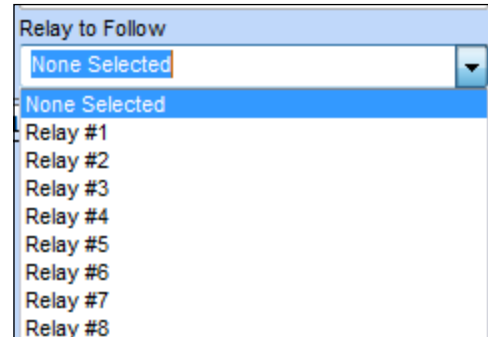

Figure 45: Relay to Follow
- **Follow Relay Output** – If this option is selected, you must then go to the **Relay to Follow** field (Figure 45, page 25) and select another relay that this relay is to follow. For example, if you are configuring Relay #1, you can configure it to energize whenever Relay #2 (based on its logic) energizes.
If you want this relay to energize at the same time as another relay (based on that relay’s control logic), select “Follow Relay Output” in the Control Method field, Figure 36, page 22) and select the other relay here (Figure 45 below).